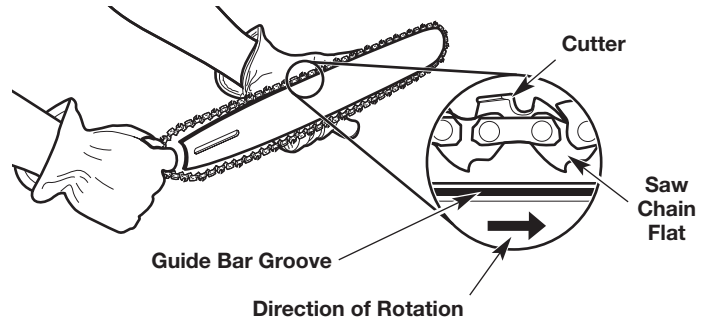
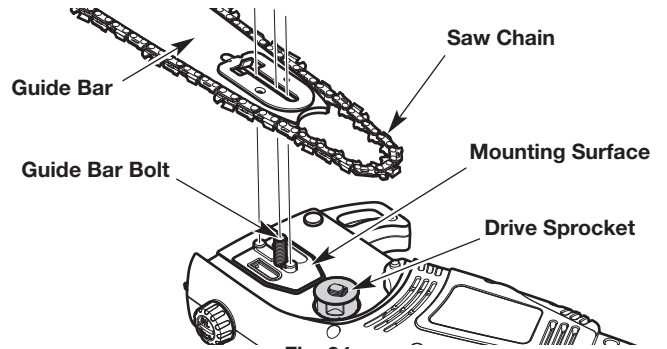

Fig. 33
Fig. 34
3. Carefully remove the saw chain and guide bar (Fig. 34).
3. Fit the saw chain into the guide bar groove (Fig. 33). Make sure the cutters point in the correct direction of rotation (Fig. 33). Keep a loop of saw chain at the back end of the guide bar (Fig. 33).
4. Hold the saw chain and guide bar together in position over the unit. Loop the saw chain around the drive sprocket and install the guide bar onto the guide bar bolt (Fig. 34). Make sure the guide bar is flush against the mounting surface (Fig. 34). Make sure the flats on the saw chain are in the grooves on the drive sprocket (Fig. 33).